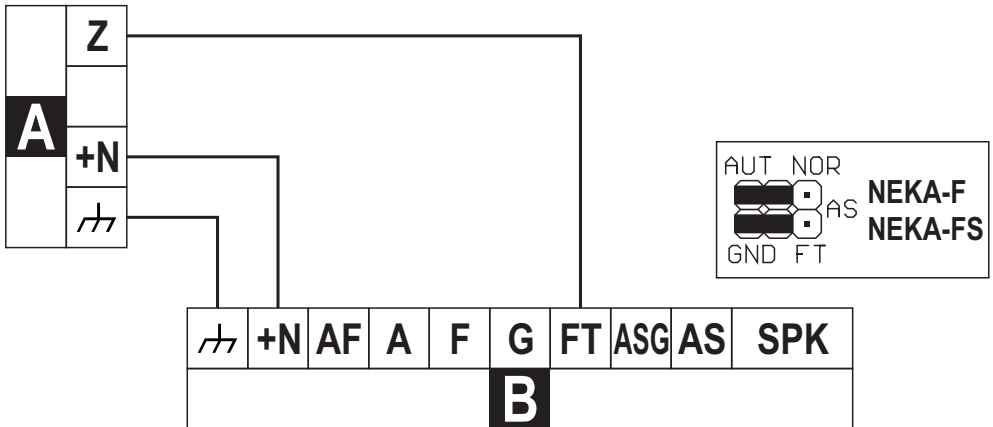

Figure 4 – Automatic mode with independent management of foam tamper: A) control panel; B) siren.
If foam tamper have to be managed by the control panel, jumpers position must be as shown in figure 4, and FT terminal of the siren (B) must be connected to an input line of the control panel (A) that is on standby when connected to ground and in alarm when floating (Z terminal in the figure).